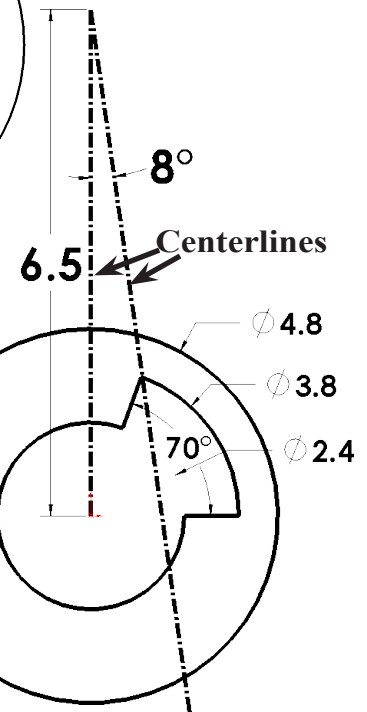

Fig. 7
Step 1. Click **Centerline**  in the **Line** flyout  (S) on the Sketch toolbar.
Step 2. Draw a vertical centerline starting from the Origin  and extending out pass the top of large circle, Fig 7. Continue a second centerline back down at angle and extending outside bottom of large circle as shown in Fig 7.
Step 3. Click **Smart Dimension**  (S) on the Sketch toolbar.
Step 4. Dimension the vertical centerline 6.5 and the angle between centerlines 8 degrees as shown in Fig. 7.